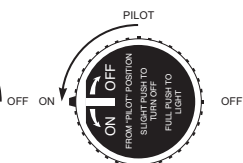

Figure 5 - ON Position
8. When pilot remains lit, start heater by slowly turning control valve knob 1/4 turn to left to ON position (see Figure 5).